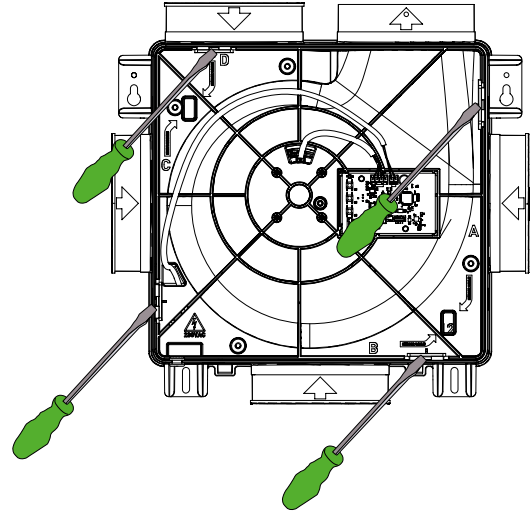
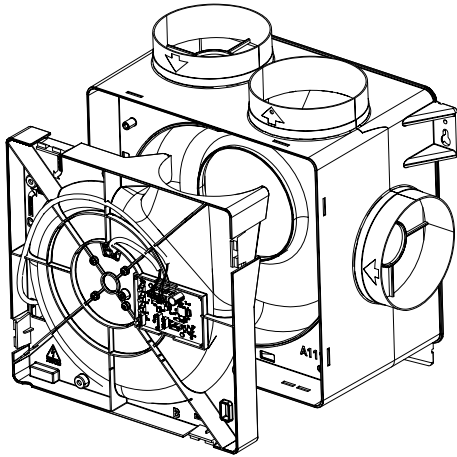

Figure 11: Detaching the motor plate.
Figure 12: Removing the motor plate.
2. Detach the motor plate by unclipping the 4 clamps. To do this, slide a flat screwdriver behind the clamp and tilt it back slightly (approx. 5 mm) so that the clamp is released from the opening in the casing (Figure 11: Detaching the motor plate. and Figure 12: Removing the motor plate.).